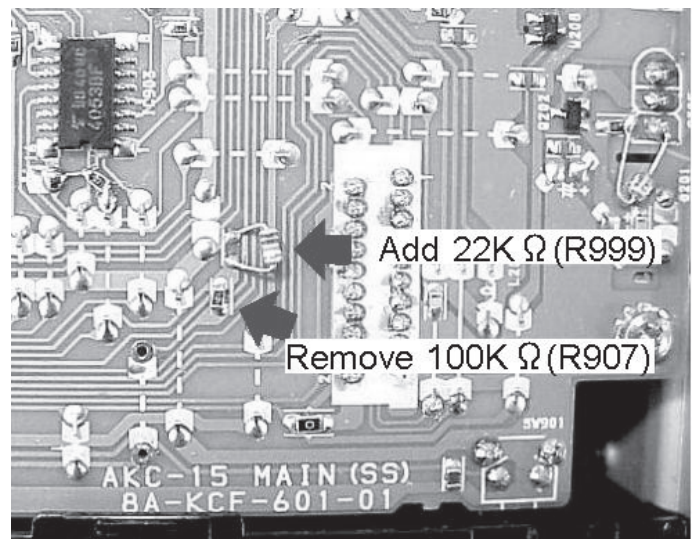

Fig. 1
- 1) Remove the resistor R907 (100k Ω) from the MAIN C.B and add R999 (22k Ω resistor or chip resistor) to the MAIN C.B. (Fig. 1)